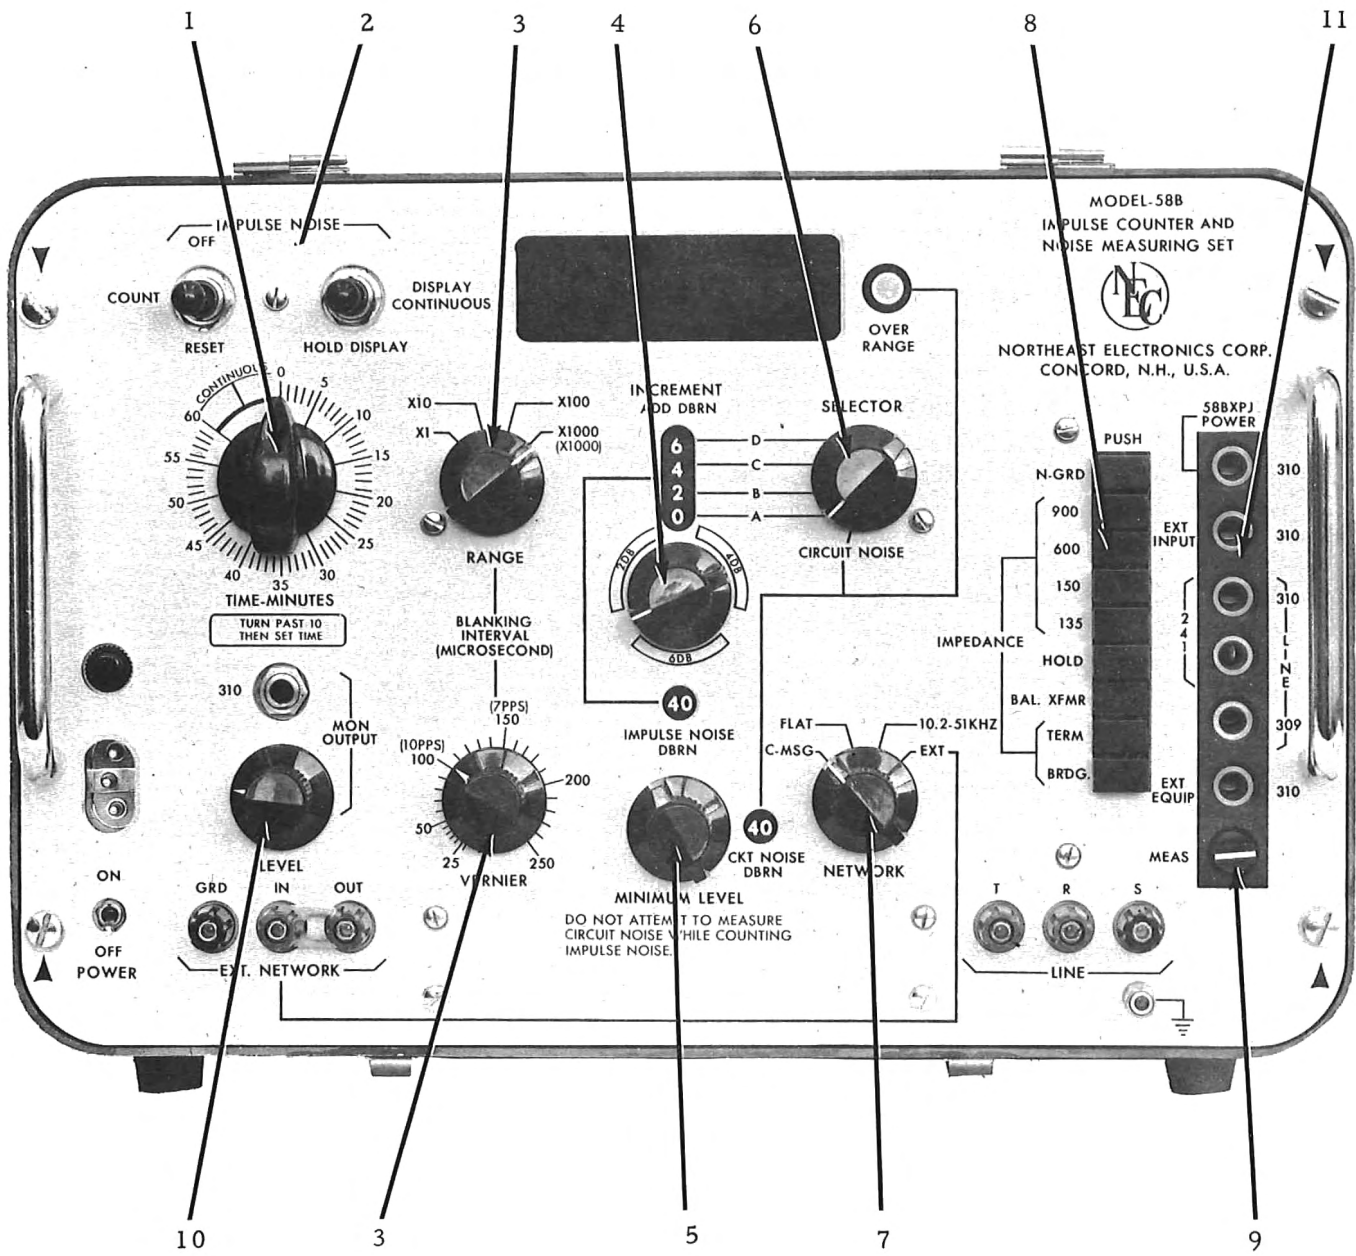

Figure 3-1 Front Panel Controls.
3.1 FRONT PANEL CONTROLS (Refer to Fig. 3-1).